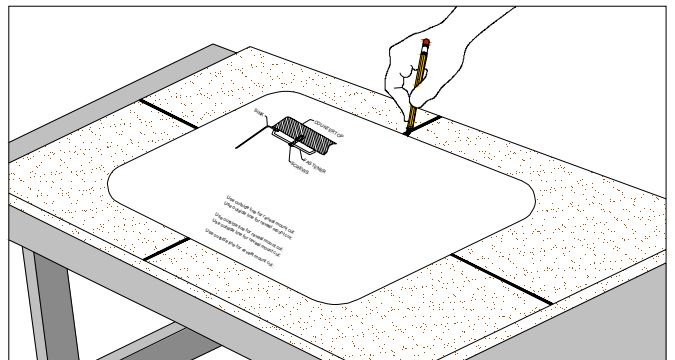

Figure 33C
- Align paper template with centerlines on the MDF or solid phenolic core template material and trace outer edge. (FIG. 33C).